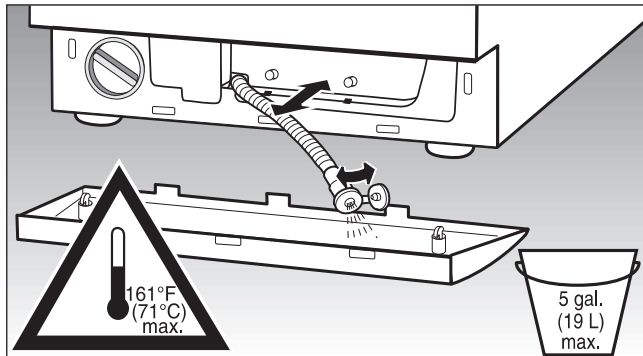

Figure 26.
- Pull out the drain hose and with a bucket close at hand remove the plug from the end of the hose. Let the water run out into a flat receptacle, such as the kick panel. Replace the plug before the receptacle overflows, pour the water into a bucket and repeat until all the water has been removed. See Figure 26.